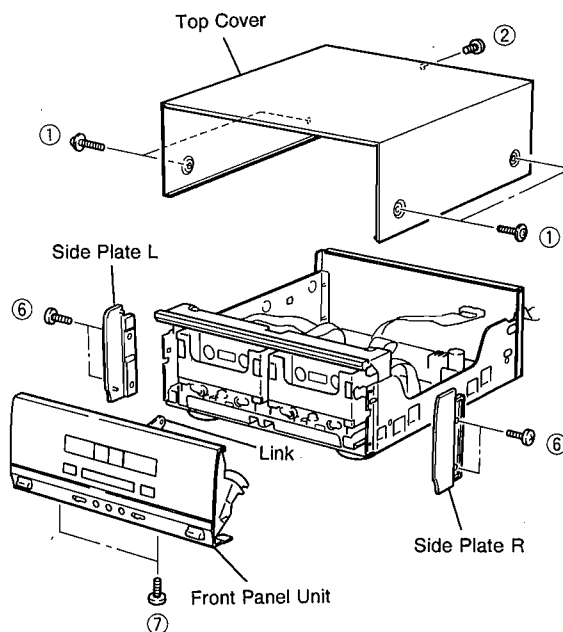

Fig. 1
- a. Remove 4 screws (⑥) and then remove the Side Plate in Fig. 1.
- b. Remove 2 screws (⑦) and then remove the Front Panel Unit in Fig. 1.